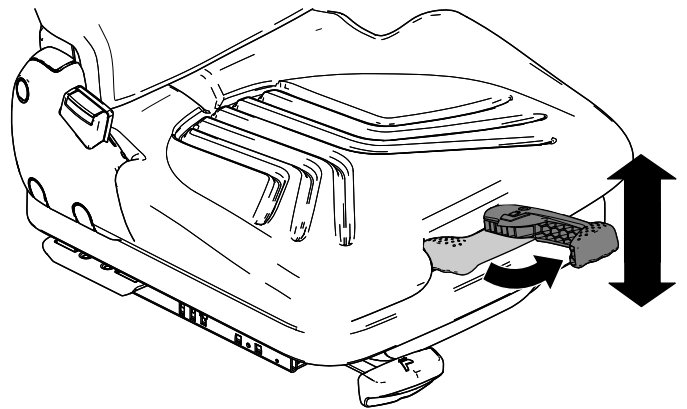

Figure 19
1. Pull the seat-suspension lever out (Figure 19).